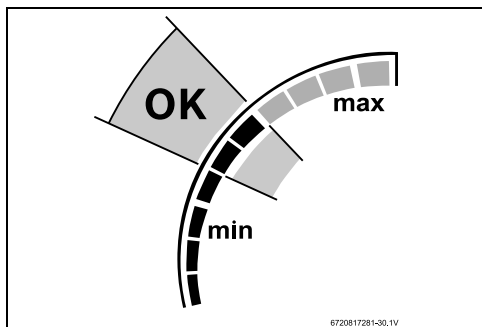

Fig. 46 Power bar middle point
- ▶ Verify if power bar level is at middle point, see fig. 46.
- ▶ Verify if power by level is at middle point, see fig. 46.
- Verify if power bar level is at middle point, see fig. 46.